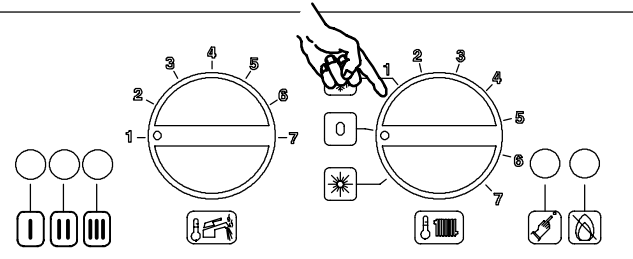

Fig. 61
- 1 Set the function selector of the boiler in stand-by mode (Fig. 61).